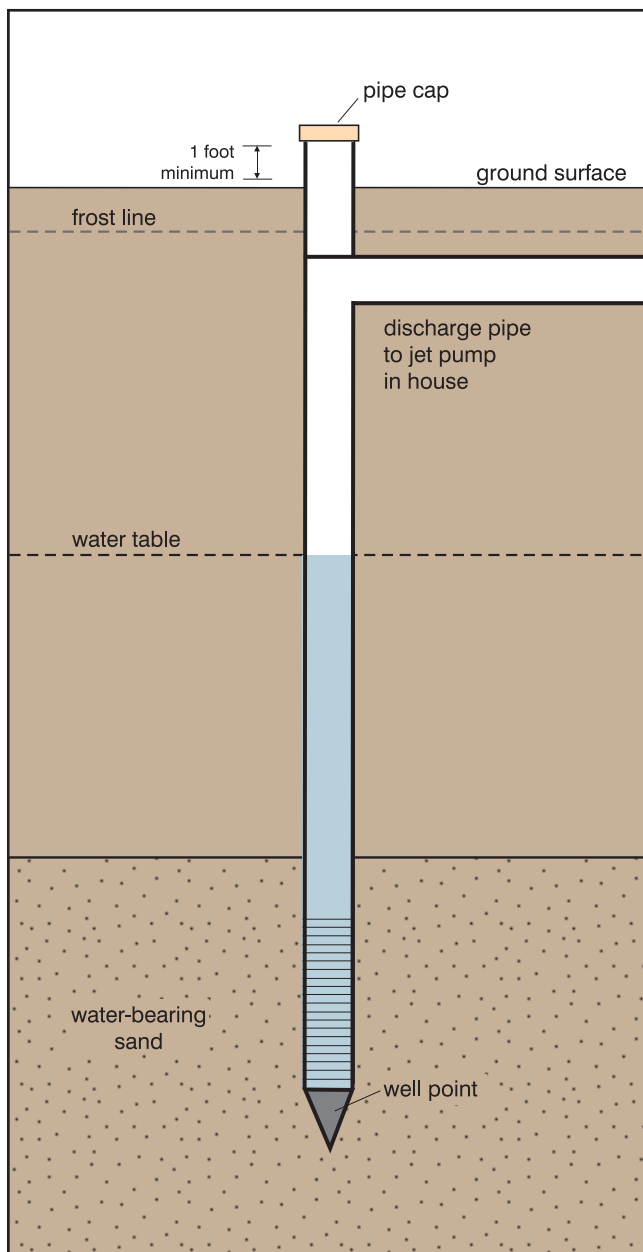

Figure 4. Sandpoint well.
- **Sandpoint wells** (Class 3 wells) draw water from shallow sand and gravel deposits. Sandpoint wells are constructed by driving a pipe with a well point into these deposits. A screen allows the groundwater to enter the pipe and be pumped to the surface (Figure 4). Shallow sandpoint wells are usually driven into shallow unprotected aquifers and may be susceptible to contamination.